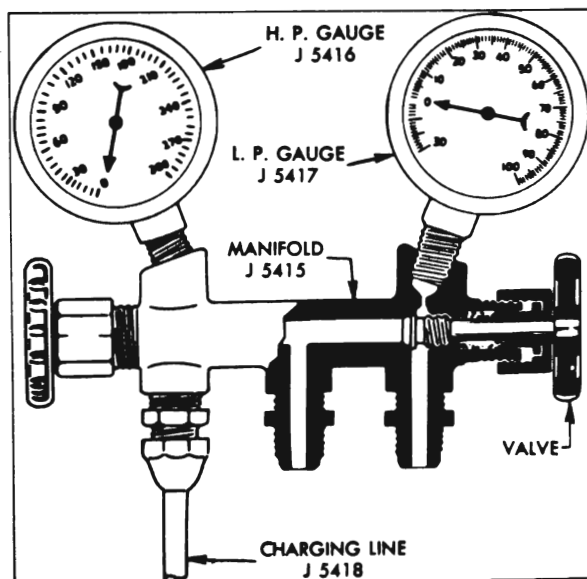

Figure 11-25—Pressure Gauge Set
2. Connect charging lines of Pressure Gauge Set (fig. 11-25) to gauge fittings of both valves, with both valves of Manifold J 5415 closed.